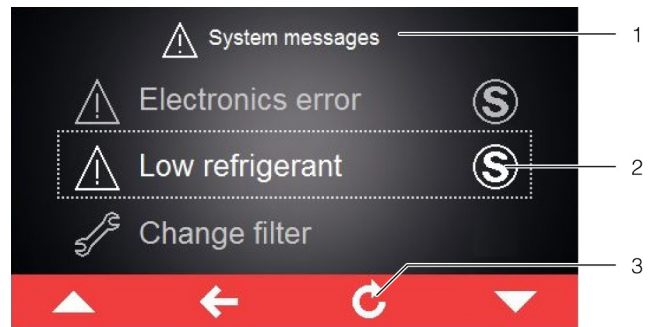

Fig. 28: Screen showing error messages
If an error message applies that cannot be resolved by the operator himself and which is not reset automatically, the "Service" symbol will appear after the error message and in the control bar next to the symbol for system messages (fig. 28, item 2).